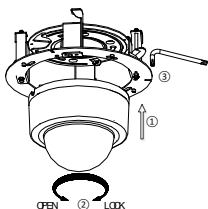

Figure 2-52 Fix the Camera
5. Fix the screws on the side with a screwdriver, as shown in Figure 2-52.